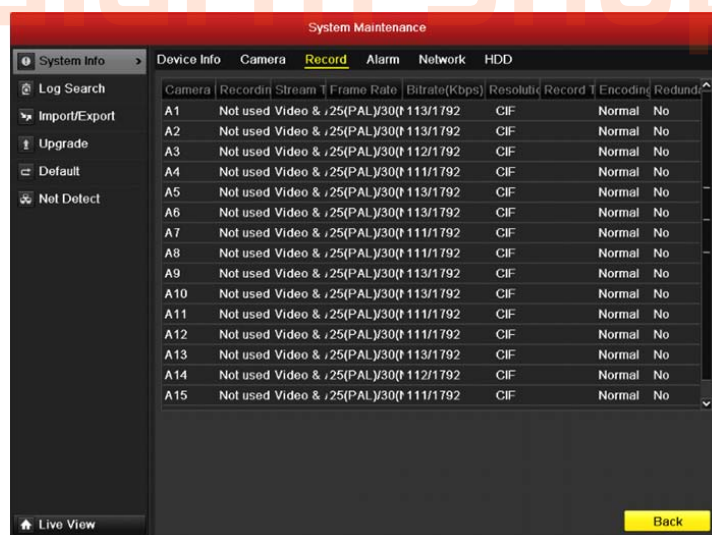

Figure 12.3 Record Information Interface
2. Click the **Record** tab to enter the Record Information menu to view the recording status encoding parameters of each camera, as shown in Figure 12.3.